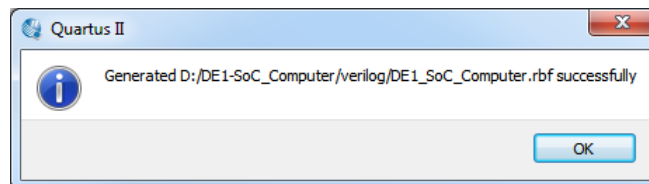

Figure 41. The .rbf file successfully generated.
7. We are now ready to generate the .rbf file. Click `Generate`. You should see the success message shown in Figure 41.